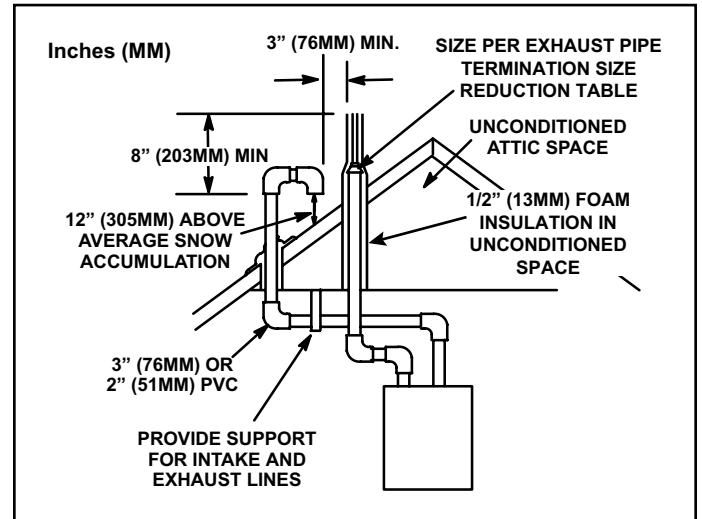

Figure 31. Direct Vent Roof Termination Kit (15F75 or 44J41)
3. On roof terminations, the intake piping should terminate straight down using two 90° elbows (Figure 31).